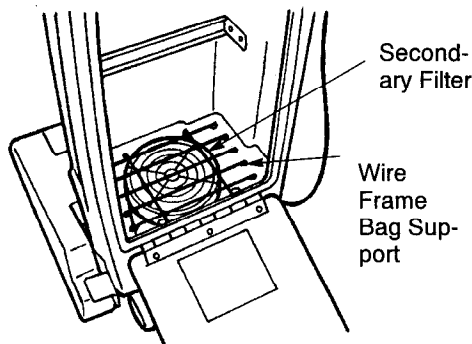

FIG. 7
1. Clean secondary filter weekly. Filter is located below vacuum bag area (Figure 7).